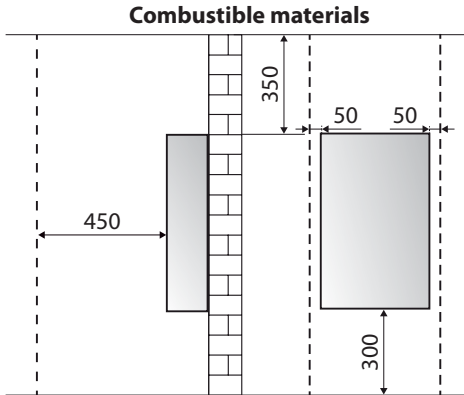

Figure 6.3-4
- The gas water heater should be kept away from combustible materials with the distance shown in Figure 6.3-4 at least.
- (4) The distance between the flue duct and the combustible materials should be more than 150mm. If the flue duct needs to get through the combustible materials or wall, it should use the heat shield material to pack the flue duct with the thickness over 20mm. (Figure 6.3-4)
- (5) No cement between the flue duct and wall for the convenience of maintenance.
- (6) The flue duct should be fixed tightly. The connection part could use self-adhesive foil to avoid the waste gas going back into the room.